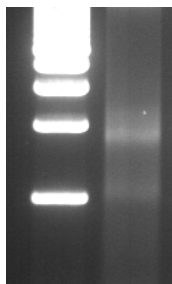

Fig. 3. Agarose gel showing product of a cDNA synthesis reaction.
- You may have less starting RNA than measured. Place the amplification reactions back in the thermocycler and perform an additional three cycles (94°C for 30 sec; 68°C for 30 sec). If, after additional cycles, there are still no bands or very weak bands compared with the Control RNA reaction, your RNA may either be (1) degraded or (2) contain an inhibitor. Try the reverse transcription again after purifying new RNA. If you still do not get sufficient yield, try a different RNA purification kit (For example Invitrogen's TRIzol Reagent, Cat. # 15596-026) or try using SBI's Full Spectrum™ Complete Transcriptome RNA Amplification Kit (Cat. # RA101A-1) to increase the amount of starting template.
- Your Reverse Transcription reaction may not have worked well. To check this, you can run the remaining portion of your reverse transcriptase reaction on a 1% agarose gel containing 0.01% ethidium bromide. You should see a smear as shown in Figure 3. If you do not see a relatively bright smear, there was a problem with your reverse transcription reaction. Do this reaction again, and check 3 μ l of the product on a gel before continuing with the amplification. If you do not see sufficient product again, contact SBI.